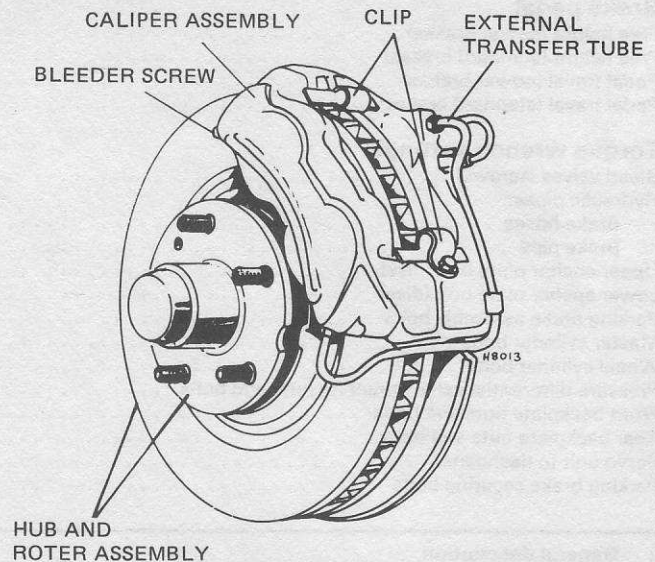

Fig. 9.1 Four-piston, fixed caliper type disc brake (Sec. 5)
- 1 The optional disc brakes on pre-1968 Mustangs are the four-piston fixed caliper type (see Fig. 9.1).
- 3 Remove the two securing screws and withdraw the pad retaining clips and/or splash shield (see Fig. 9.1).